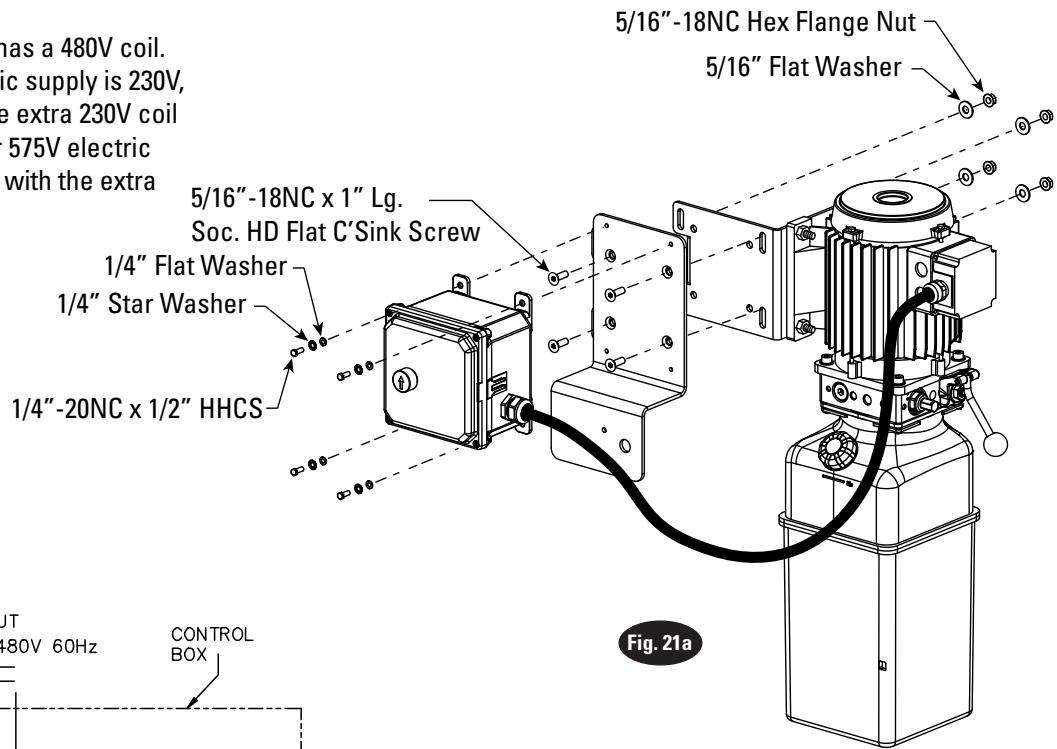

Fig. 21a
- A. Attach Mounting Bracket to the Power Unit Bracket using (4) 5/16"-18NC x 1" Lg. Soc HD Flat C'Sink Screws, (4) 5/16" Flat Washers, and (4) 5/16"-18NC Hex Flange Nuts, Fig. 21a.
- B. Attach Control Box to Bracket using (4) 1/4"-20NC x 1/2" HHCS, (4) 1/4" Flat Washers, and (4) 1/4" Star Washers. Fig. 21a.